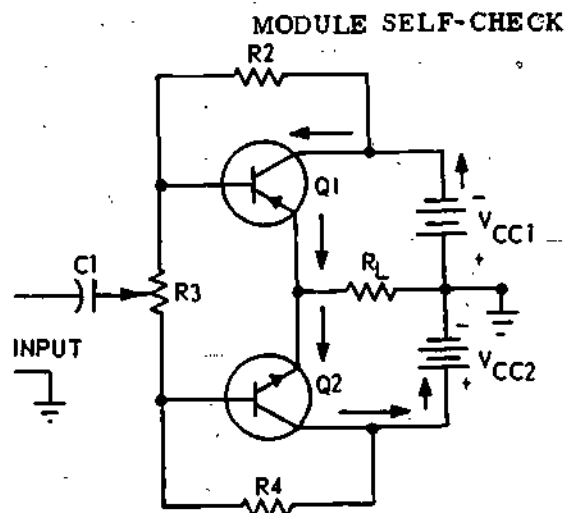

Figure 2. Complementary-Symmetry Circuit
11. Referring to figure 2, a negative going input signal will cause transistor Q1 to _____.
12. Referring to figure 2, a negative going input signal will cause transistor Q2 to _____.
13. When Q1 in figure 2 is conducting, the correct current path for Q1 is from the negative side of V_{CC1} , through Q1, R_L to the positive side of V_{CC1} . (TRUE) (FALSE)